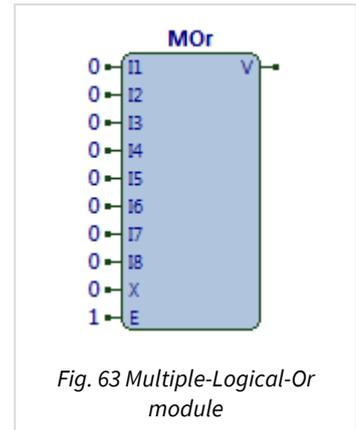

Fig. 63 Multiple-Logical-Or module
The MOr module (Fig. 63) performs the logic operation to determine whether any of its specified inputs are set non-zero. It performs the logical or operation (OR).